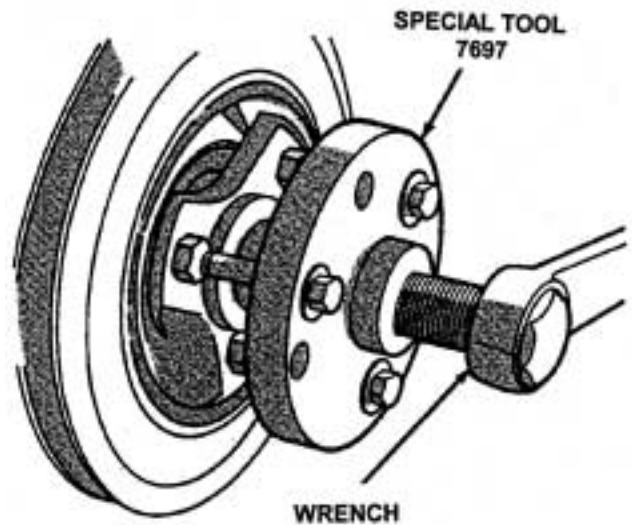

Figure 13
29. Using Special Tool 7697, remove the crankshaft vibration damper (Figure 13).